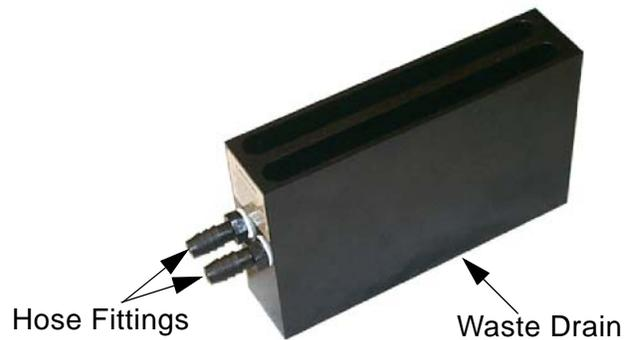

Figure 5. Waste Drain
- 1 Locate and remove the waste drain from its bubble-pack bag in the Startup Kit, as shown in Figure 5.